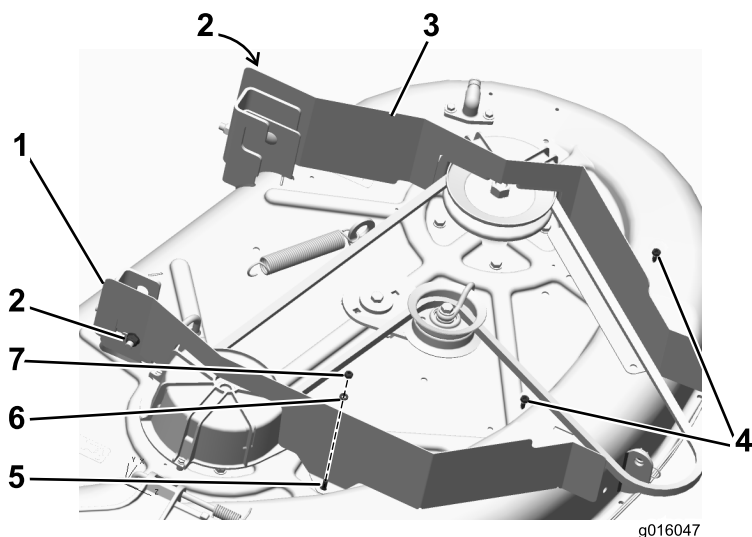

Figure 4
4. Mount both left and right deck guards to the mowing deck as shown in Figure 4.